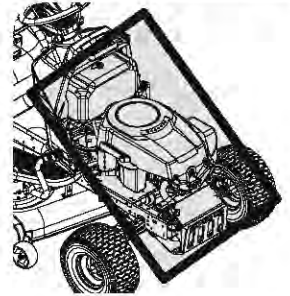

Figure 32
- Clean under the hood, including exhaust manifold, around fuses, all wiring and harnesses, muffler pipe, muffler shield, engine intake screens and cooling fins, etc. See Figure 32.